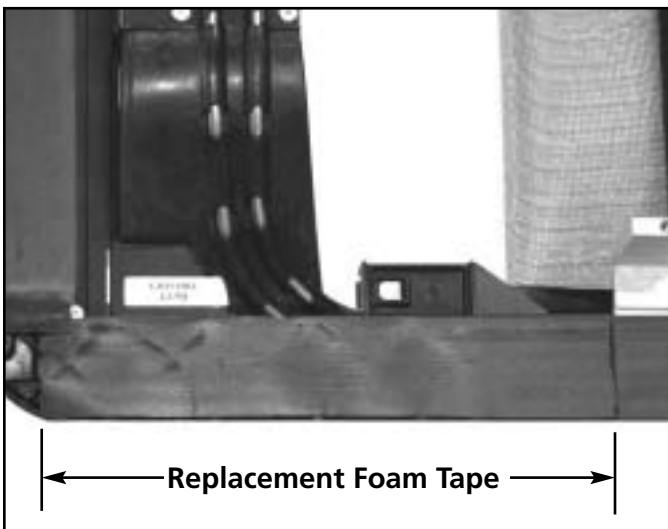

Figure S-38
16. Cover the exposed areas of the track and rail with foam tape. See figure S-38.